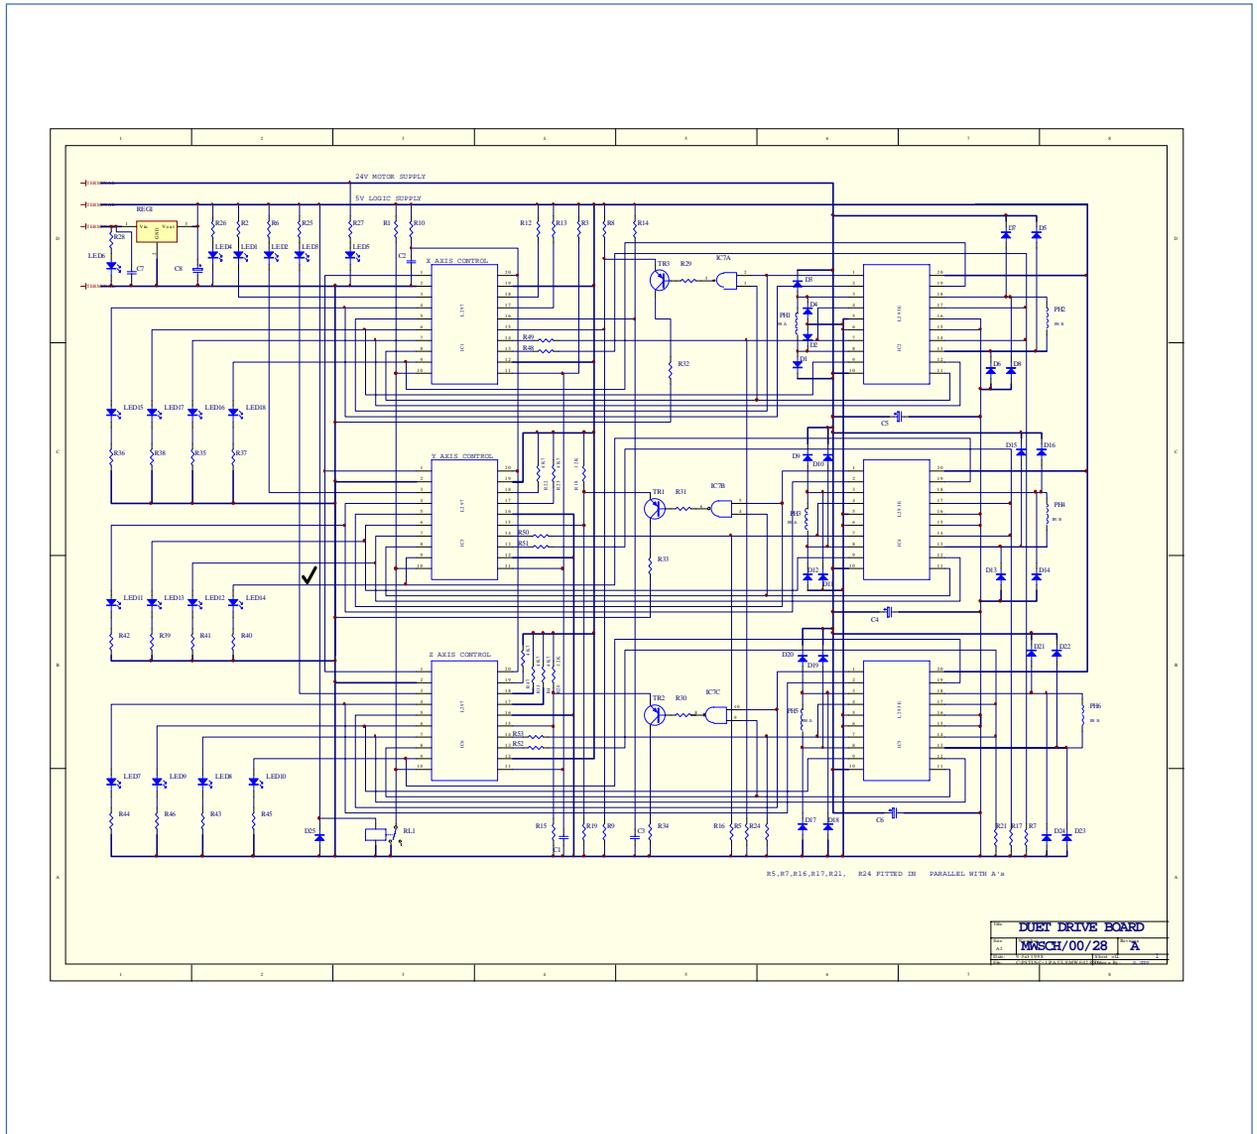

Figure 8.5 Axis Control PCB
8.5.2 Axis Control PCB (Figure 8.5)